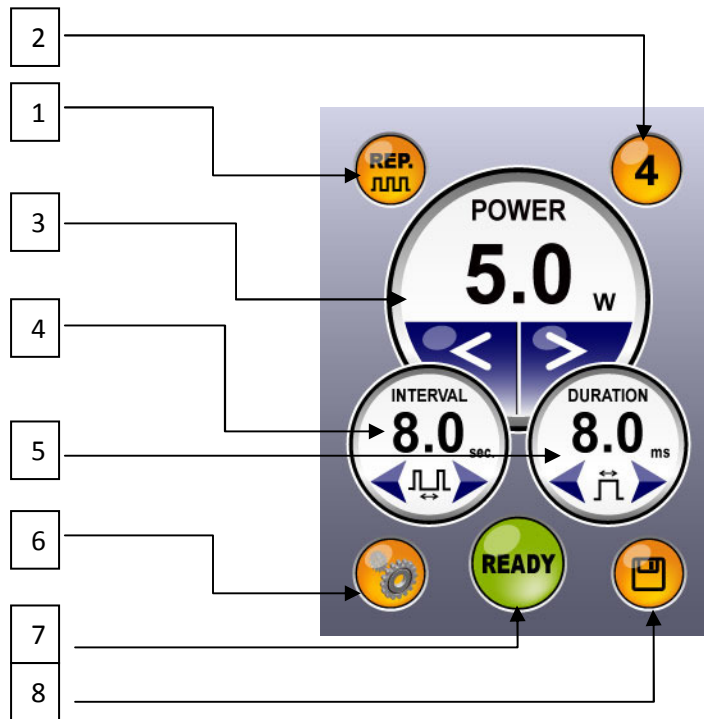

FIGURE 5
To select another language, press  button. The system will then enter into the language selection display (Figure 5). Press desired language for 2 seconds, and the system will restart in the chosen language
Repeat mode - In this mode, all the parameters (INTERVAL, DURATION, and POWER) can be adjusted and saved as a preset. Use the ◀ and ▶ buttons (Figure 5, #4 and #5) to select desired interval and duration from 20ms to 9.9 sec.
STEP 2: Select desired preset 1-4 (Figure 5, #2)
STEP 3: POWER. Select desired power settings 0.1 – 7 watts using the ◀ and ▶ buttons (Figure 5, #3).
STEP 4: INTERVAL / DURATION. Select desired interval and duration (figure 5, #4 and #5) (available only on REP  mode).
STEP 5: SAVE. Save desired settings by pushing the SAVE  button for 2 seconds until the beep is heard (Figure 5, #8).
STEP 6: READY. Push **STANDBY** button (Figure 5, #7) to put unit into **READY** mode. Press the footswitch to fire the laser.